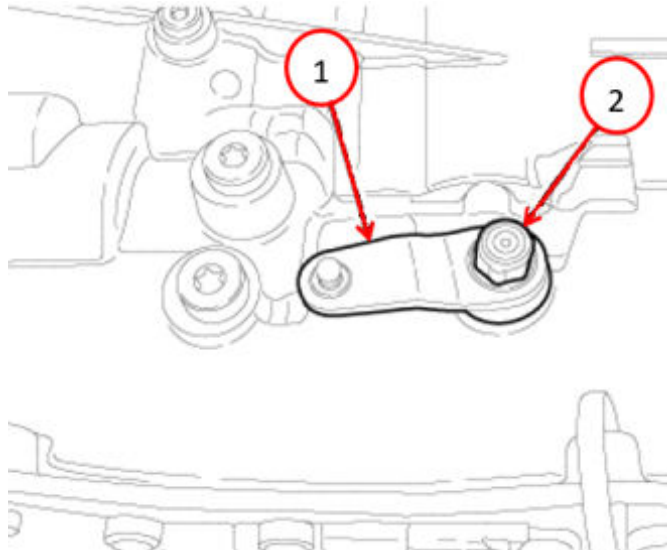

Fig. 49
74. Remove the tie strap and return the manual release lever to the original position Fig. 49.